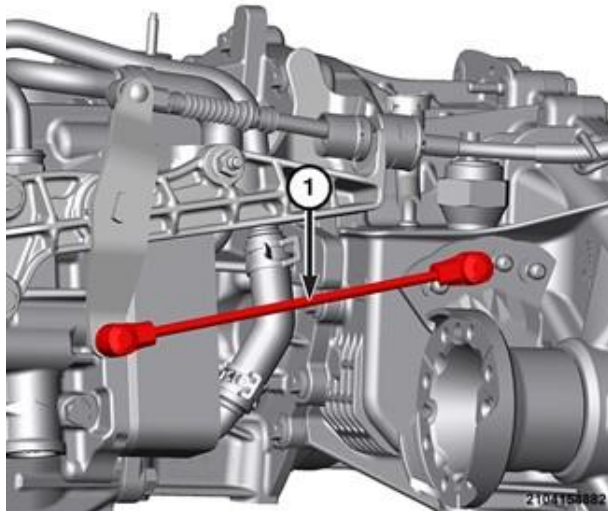

Figure 20 – Transfer Case Shift Rod
24. Disconnect the shift rod (1) at the transfer case (Figure 20).